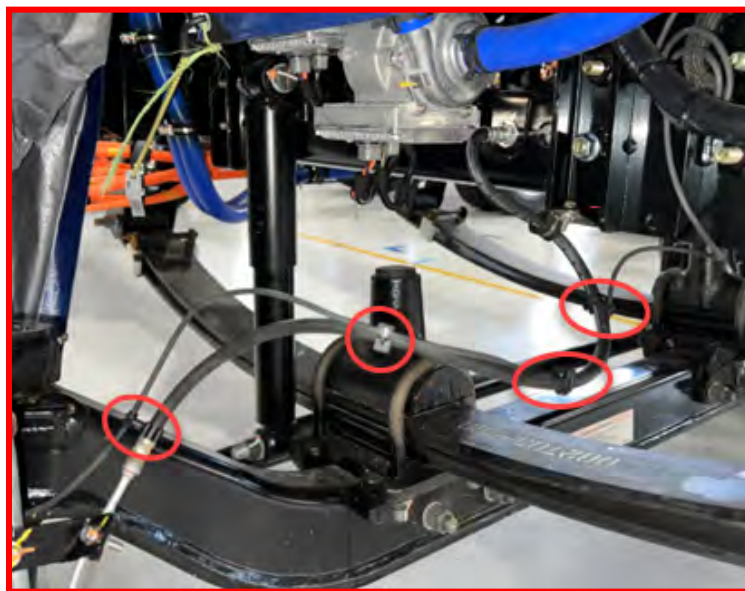

**Figure 15 - P-Clamp Securing the Rubber Brake Line
7. Route the passenger side rubber brake line through the p-clamps (HD10-HH-M0235) using a bolt (HD30-HH-M0006) and a nut (HD30-HH-M0005). Torque to 25 Nm. (Figure 15)